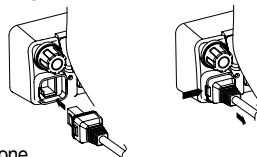

Figure 1-2) Installation and Removing of the Microphone
- Be sure the tab on the microphone plug is facing the left hand side (Figure 1-2).